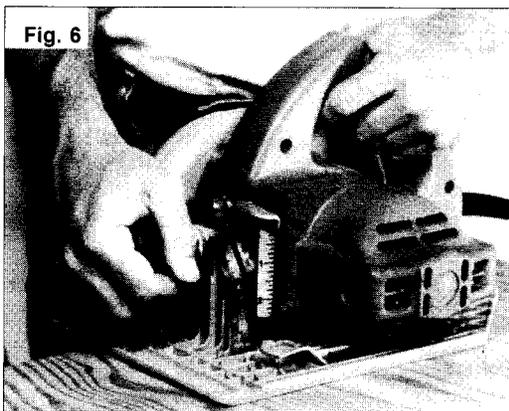

Fig. 6
### Adjusting Bevel Angle (7-1/4" Saws) (Fig. 6 & 7)
2. To adjust the angle of the cut, place the saw on the edge of the workpiece. While holding the saw by the handle, loosen the bevel adjusting knob (Fig. 6).